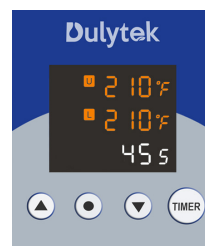
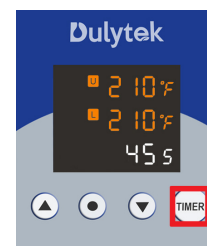

Fig. 11
Fig. 12
1. Wait until the platens heat up to the desired temperature (Fig. 11). Tip: Once heating is finished, the heating icons are turned off.
2. Place the prepared material in the center of the bottom platen (C).
3. Pump the jack handle (G) to move the bottom platen (C) up. Continue pumping until the desired pressure is reached. Release the handle.
4. Press TIMER button on the control panel (D) to start the countdown (Fig. 12). The countdown is now shown on the lower line of the display.
7. Turn the valve knob (F) counterclockwise to release the press and lower the bottom platen (C).